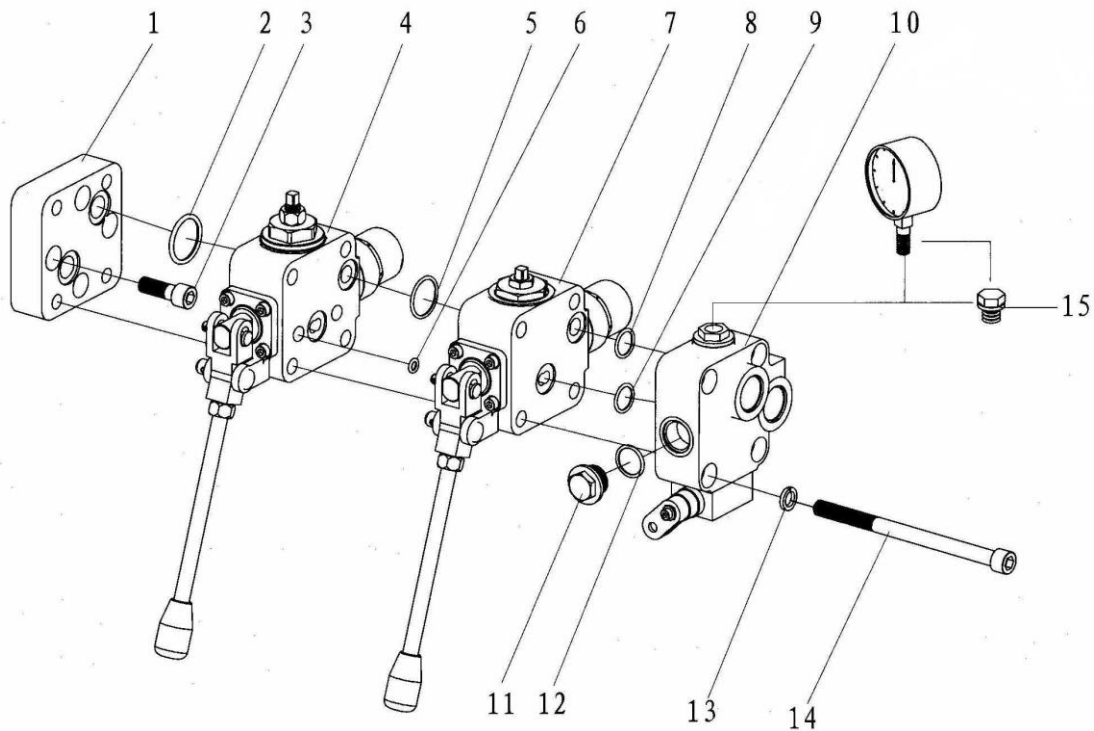

Fig.24
11.7 Hand control valve and parts list (Fig.24, Table 11)